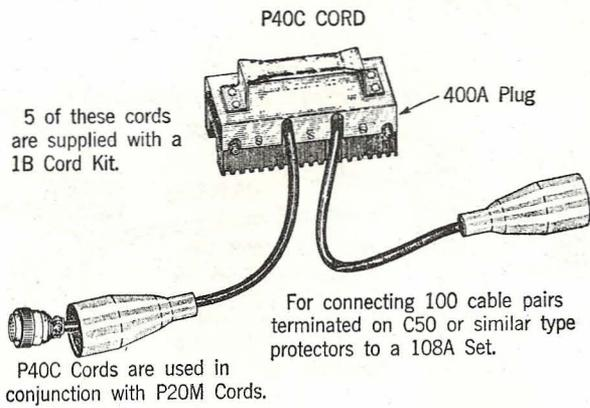

Fig. 11
4.09 **P40C Cord:** This cord is illustrated in Fig. 11.